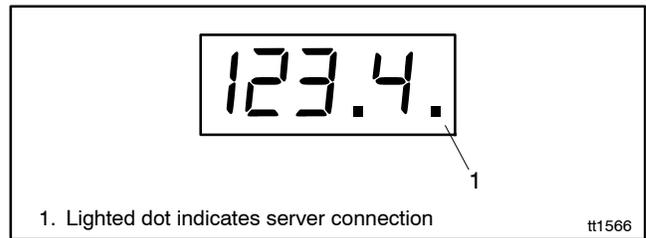

Figure 3-1 Controller Display with Server Connection Indicator
Check for a dot in the lower right corner of the RDC or DC controller display to verify that the controller is connected to the Kohler® OnCue® Plus server. See Figure 3-1.
- **RDC/DC Controller.** Check the server connection LED on the generator set controller. See Figure 3-1.